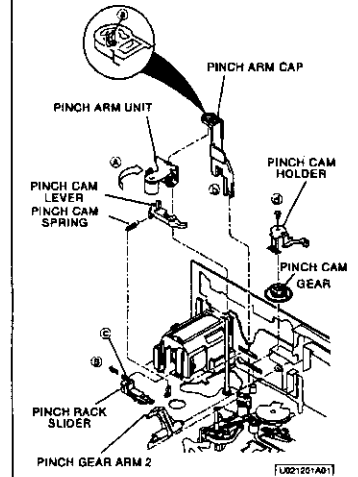

Fig. 2-12-1
- Unfasten the two catches (a) and (b) of the PINCH ARM CAP shown in Fig. 2-12-1 with the tweezers, etc. to remove the PINCH ARM CAP.
- Move the PINCH ARM UNIT in the direction shown by arrow (A) to remove it as shown in Fig. 2-12-1.
- Remove the PINCH GEAR ARM 2 shown in Fig. 2-12-1.
- Remove the PINCH CAM SPRING shown in Fig. 2-12-1.
- Remove the PINCH CAM LEVER shown in Fig. 2-12-1.
- Unfasten the catch (c) of the PINCH RACK SLIDER shown in Fig. 2-12-1. Move the PINCH RACK SLIDER in the direction shown by arrow (B) to remove it.
- Unscrew the screw (d) of the PINCH CAM HOLDER shown in Fig. 2-12-1 to remove the PINCH CAM HOLDER.
- Remove the PINCH CAM GEAR shown in Fig. 2-12-1.
6 Install the PINCH CAM LEVER shown in Fig. 2-12-1.
7 Install the PINCH CAM SPRING shown in Fig. 2-12-1.
9 Install the PINCH GEAR ARM 2 shown in Fig. 2-12-1.
10 Move the PINCH ARM UNIT in the opposite direction of arrow (A) to install it as shown in Fig. 2-12-1.
11 Install the PINCH ARM CAP shown in Fig. 2-12-1.